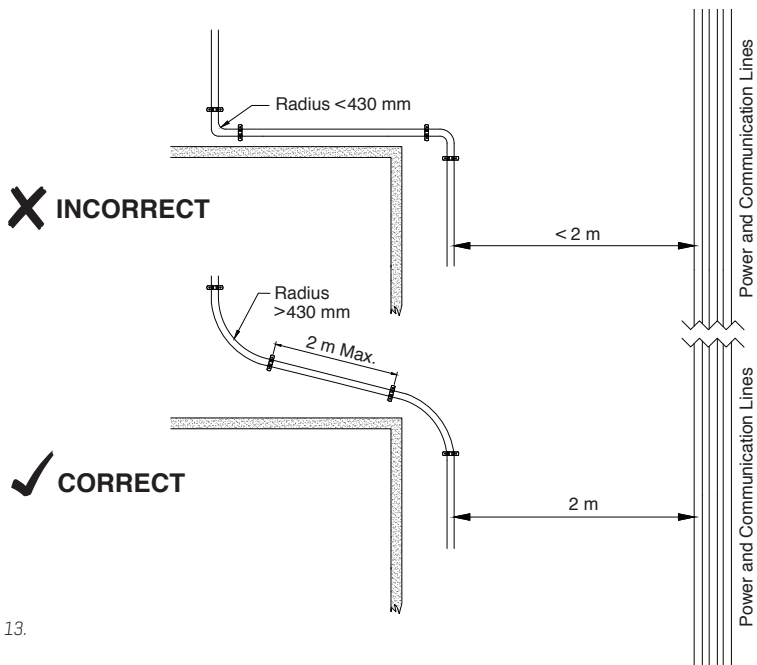

Figure 13.
- Parallel routing with other services – Minimum separation = 2 m. See Figure 13 on page 22